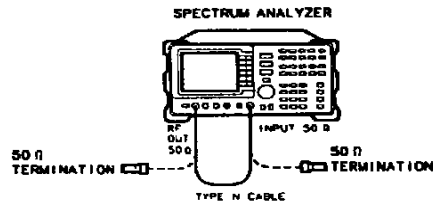

Figure 3-33. Tracking Generator Feedthrough Test Setup
1. Connect the Type N cable between the spectrum analyzer's RF OUT 50Ω and INPUT 50Ω connectors. See Figure 3-33.